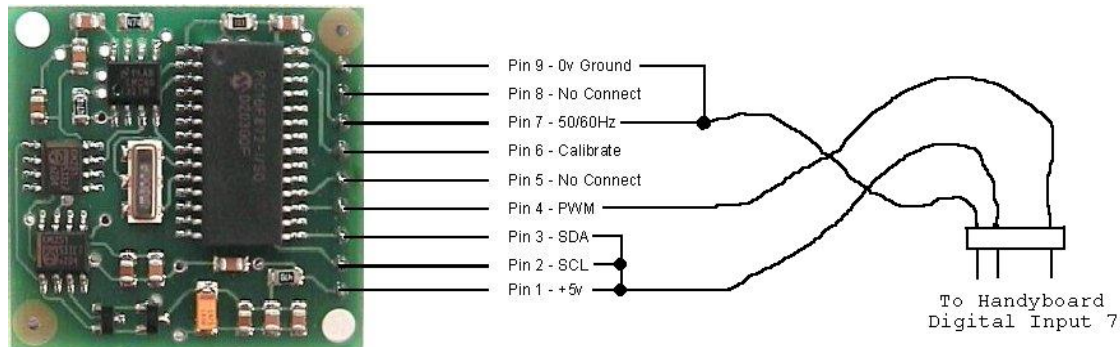

Figure 4: Interface to HandyBoard
Step 1: Wire the compass, as shown in Figure 4. Soldering of the pins to wires will be necessary.